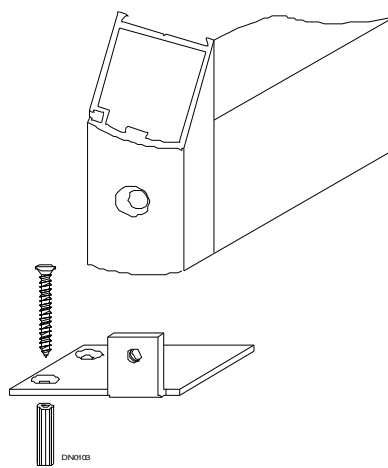

Figure 23
8. Install floor bracket into panel with color coordinated 1/4-20 x 1/2 inch screw provided. Plumb panel and mark holes on floor. Drill holes with masonry bit and fasten bracket to floor with plastic anchors and #14 x 1-1/2 inch screws provided (See Figure 23).